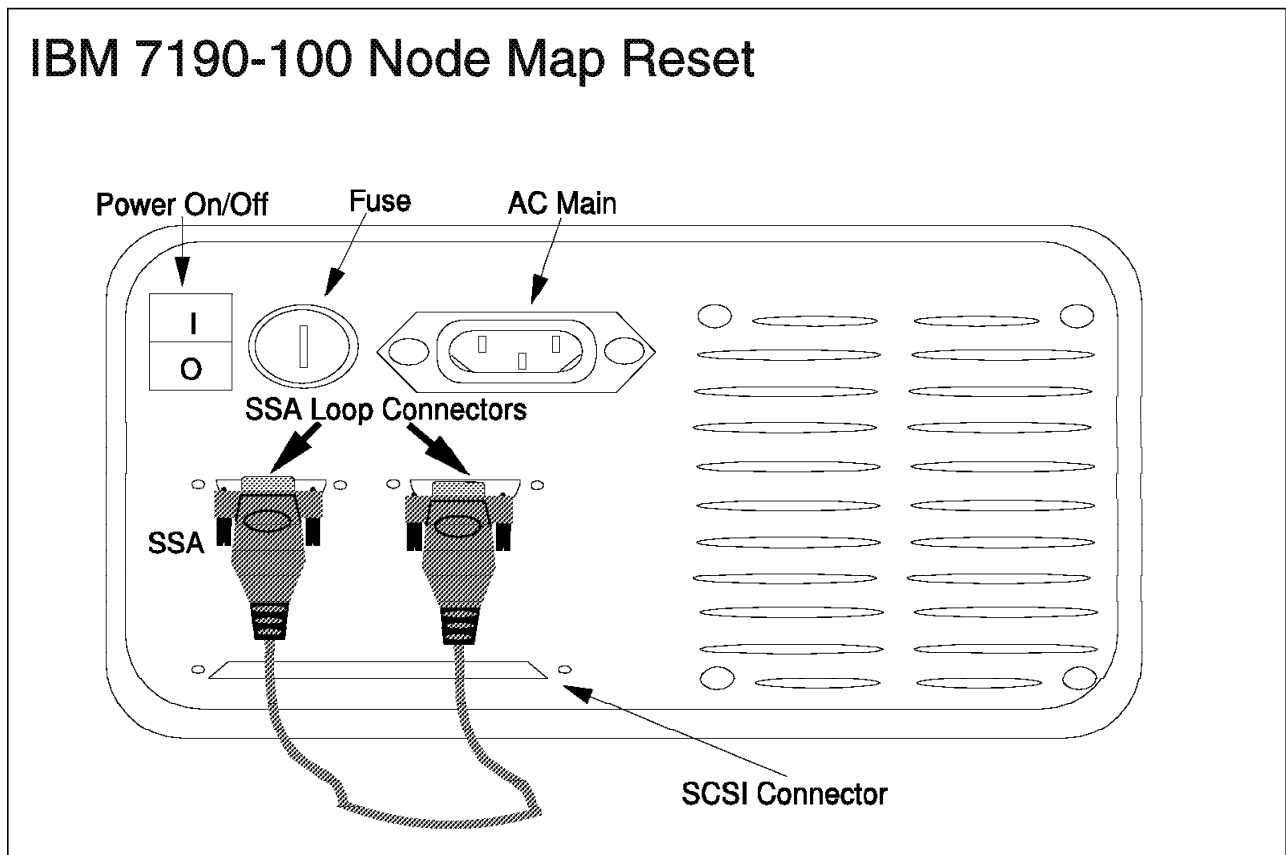

Figure 85. The 7190 Model 100 Cable Connection for Node Map Reset
2. Install an SSA cable directly between the A1 and A2 connectors on the 7190 model 100 enclosure (see Figure 85). Ensure that there are no devices on the SSA loop.